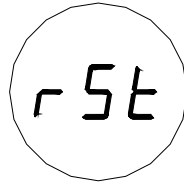

Figure 10: Relay Reset
2. The relays can be reset via the magnetic switch using a magnet. Place the magnet over the GM Logo on the cover of the unit. After three seconds, the display will show "rSt". Remove the magnet at this time and the relays will be reset (Figure 10).